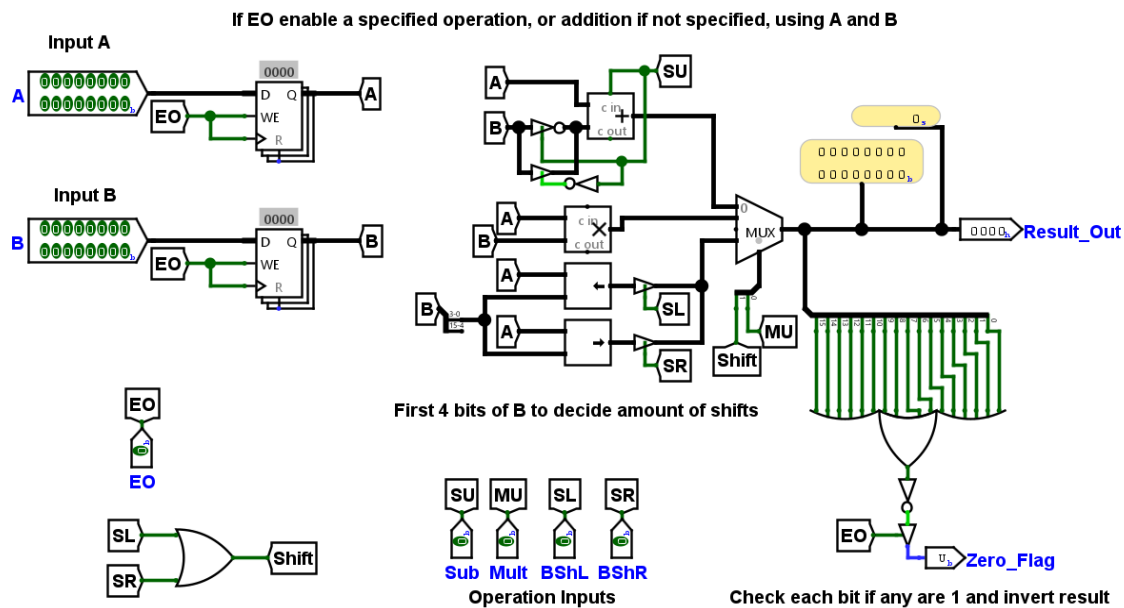
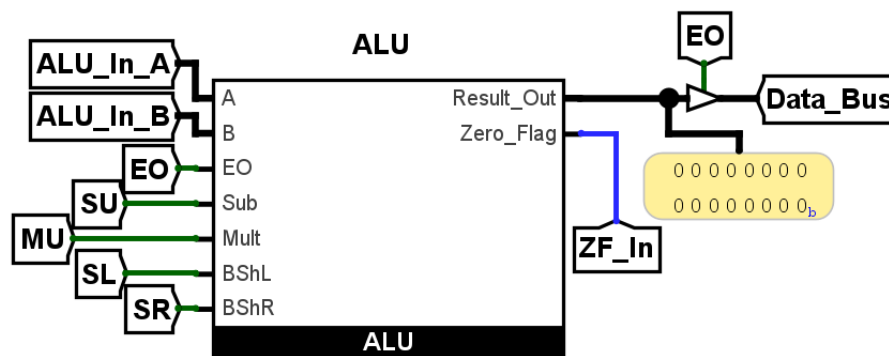

Figure 19: Internal design of the Arithmetic Logic Unit (ALU).
Figure 20: The ALU component and its connections.
The Arithmetic Logic Unit (ALU) is the component in charge of managing all the arithmetic operations of the CPU. This implementation has five arithmetic operations: *addition*, *subtraction*, *multiplication*, *bit-shift left*, and *bit-shift right*. Figure 19 shows six inputs, two 16-bit inputs directly connected to Register A and B, as seen in Figure 20, and four 1-bit operation inputs controlled by the microprogram that chooses which operation to output. These operations are chosen using a multiplexer, a component which chooses which data input to output via a combination of selection inputs. In this case, the data inputs are *addition or subtraction*, *multiplication*, and *shifting either left or right*; three data inputs. It has two selection bits, the multiplication signal (MU) and a shift signal, which is a combination of either *shift left (SL)* or *shift right (SR)*. If neither of those signals are on, then it can be presumed that the operation wanted is addition or subtraction, which both use a 16-bit full adder for their operation. All output bits are constantly monitored using an inverted 16-bit OR gate, a *NOR* gate, to check if all of the bits are low, and will output the zero flag to the zero flag register if EO is high. If EO is high, it will also output its result to the data bus.
Bit shifting is simply moving the values of the bits to the left or right. So, 0001 bit-shifted once to the left would become 0010, doubling in value. Going the other way, it will act like a floor division, dividing it by two floored to the nearest integer. (Lilja and Sapatnekar, 2004) In *Figure 19*, it is possible to see that this ALU uses the four least significant bits of the B register to determine how many times the 16-bit number of the A register gets shifted in the direction specified by the microprogram control unit. It can be done with bit-shift registers, barrel shifting and many other methods.